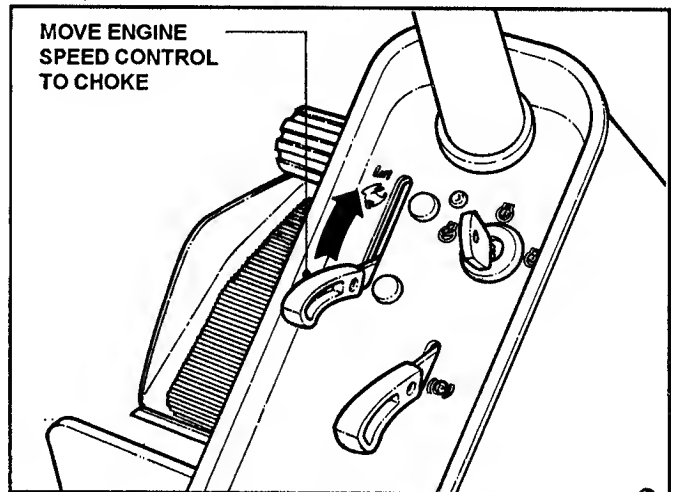

FIGURE 2.10
5. Move engine speed control to the choke position to start a cold engine. See Figure 2.10.